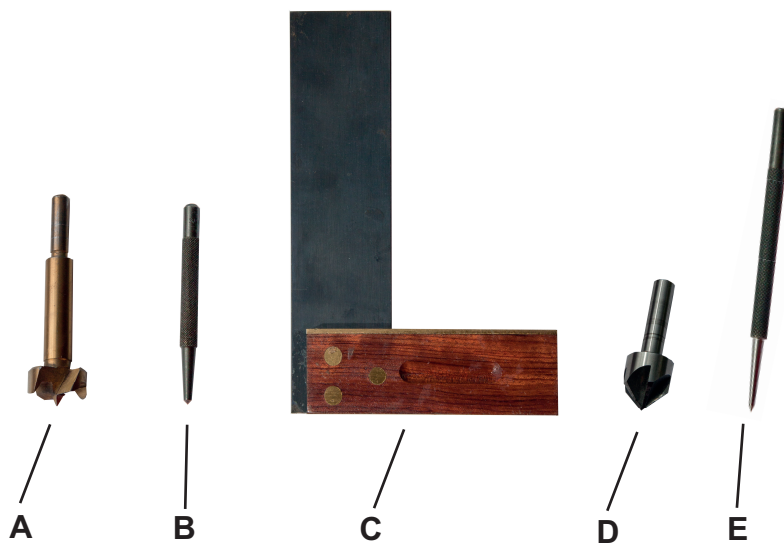

Fig. 7
5 Fig. 7 shows five tools labelled A, B, C, D and E.
- (a) (i) Complete **Table 4** by inserting the correct letter from **Fig. 7** to match the image with the name of the tool.